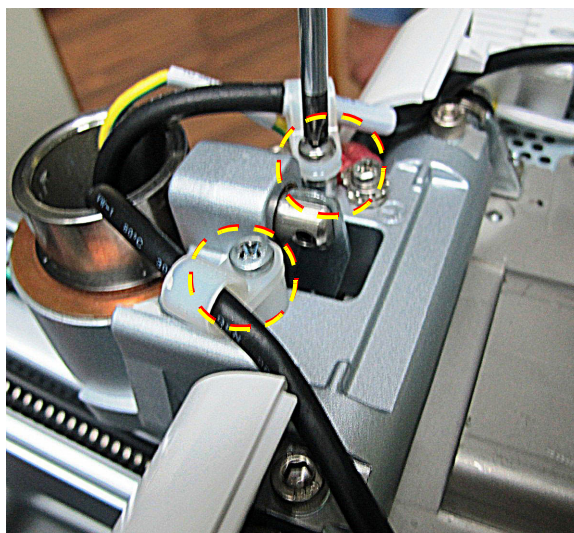

Figure 8-226 Cable Holders Located on Articulated Arm
- 1) Unscrew the two cable holders as shown in Figure 8-226 below.